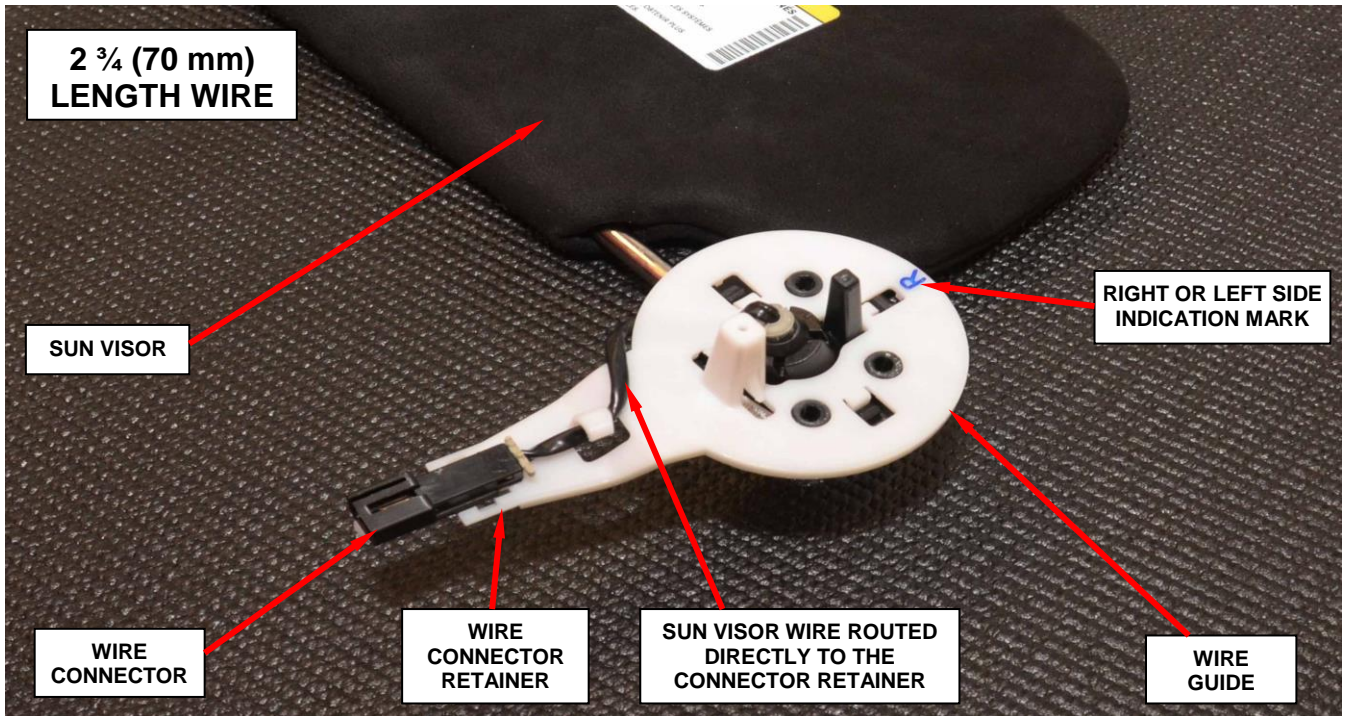

Figure 13 - Sun Visor Wire Routing (2 3/4 Inch / 70 mm Length Wire)
NOTE: The plastic wire guides are marked “R” for the right side and “L” for the left side (Figure 13).
31. Route the wire as shown in Figure 13 or 14 depending on the length of the sun visor wire. Then connect the sun visor wire harness electrical connector to the wire guide connector retainer.
NOTE: Figures 13 and 14 show the sun visor parts assembled without the headliner in place.